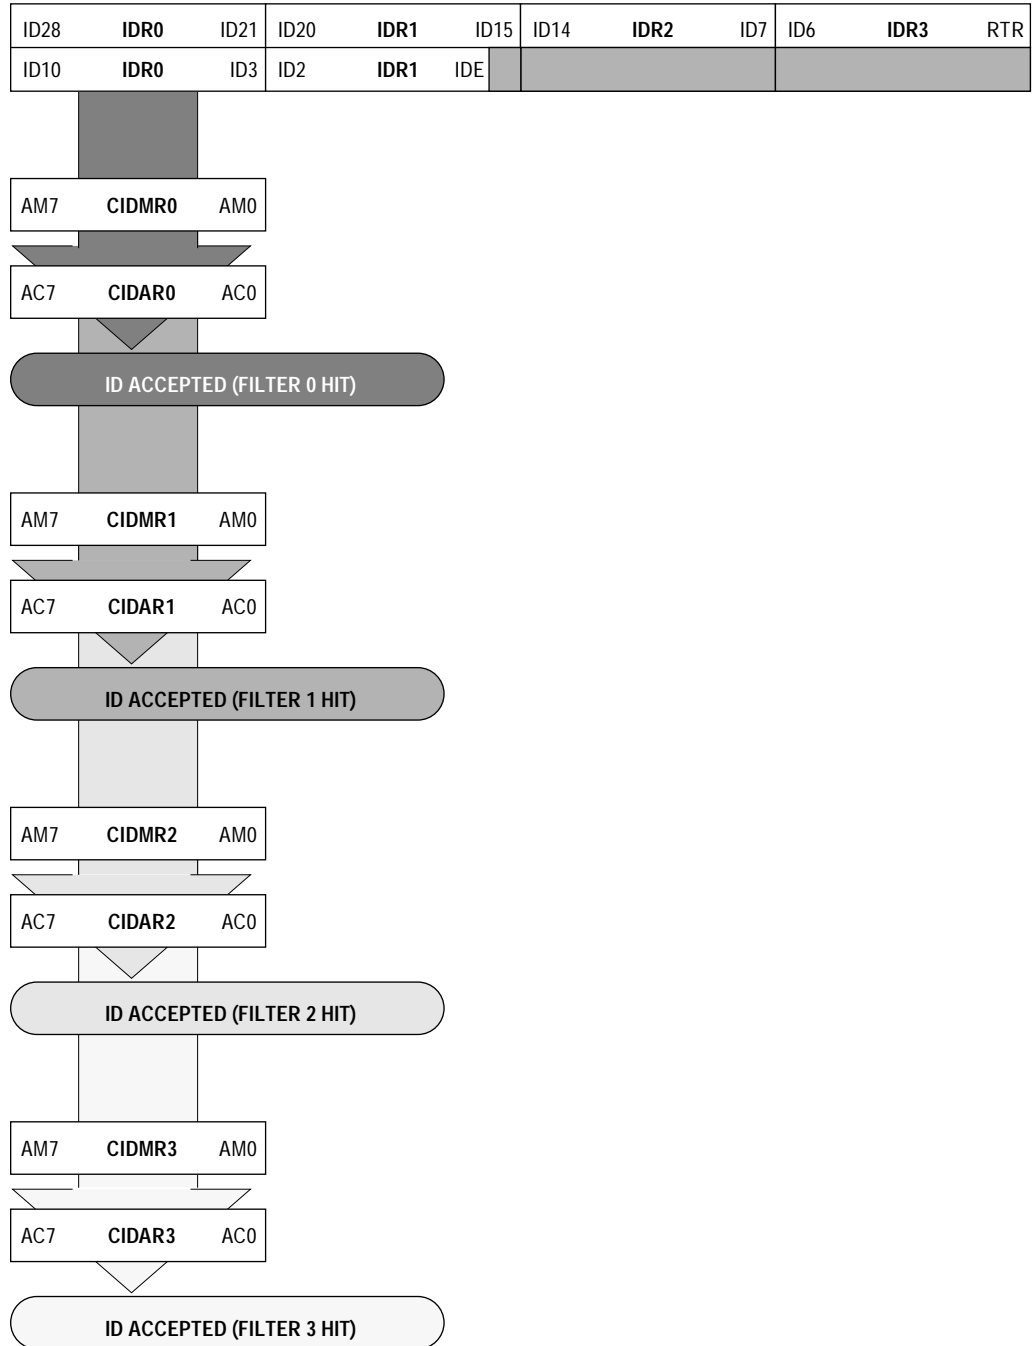

Figure 5. Quadruple 8-Bit Maskable Acceptance Filters
- Four identifier acceptance filters, each to be applied to the first eight bits of the identifier. This mode implements four independent filters for the first eight bits of a CAN 2.0A/B compliant standard identifier. **Figure 5** shows how the 32-bit filter bank (CIDAR0-3, CIDMR0-3) produces filter 0 to 3 hits.